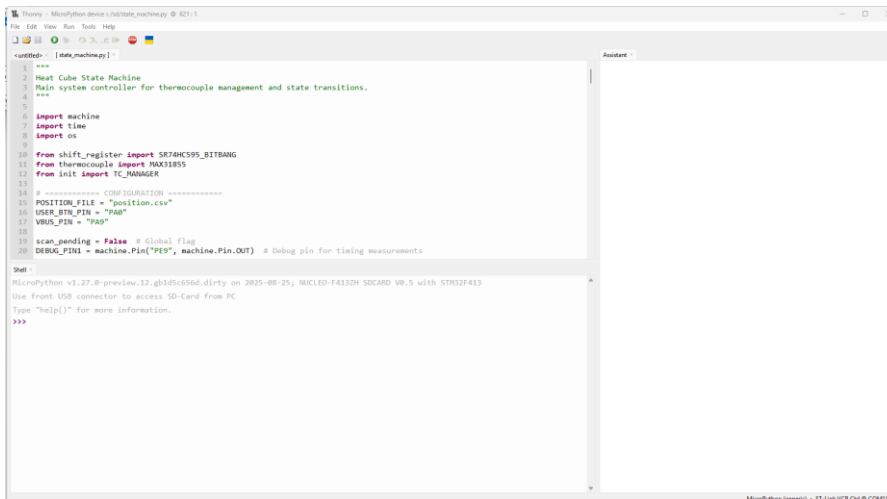

Figure 11: Clicking "OK" when selecting the state_machine.py file.
- Select the `state_machine.py` file, click **OK** and the IDE should then appear as shown in Figure 11.